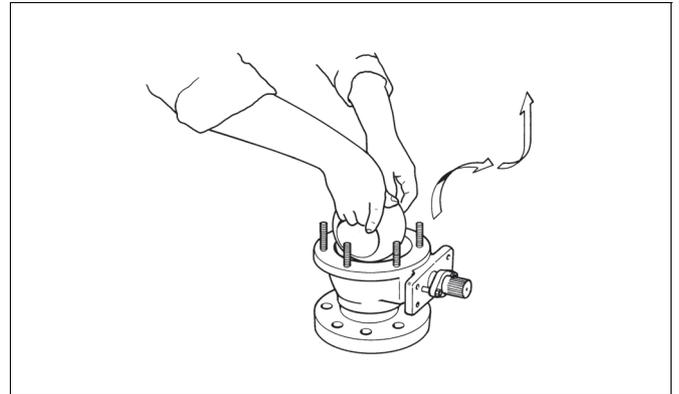

Fig. 19 Removing the ball
- ❑ Lift the ball (3) from the body (1) by gripping by the flow bore (small sizes) or by passing a rope through the flow bore and turning it at the same time around the flow bore axis. Handle the ball carefully and place it on a soft surface. See Fig. 19.